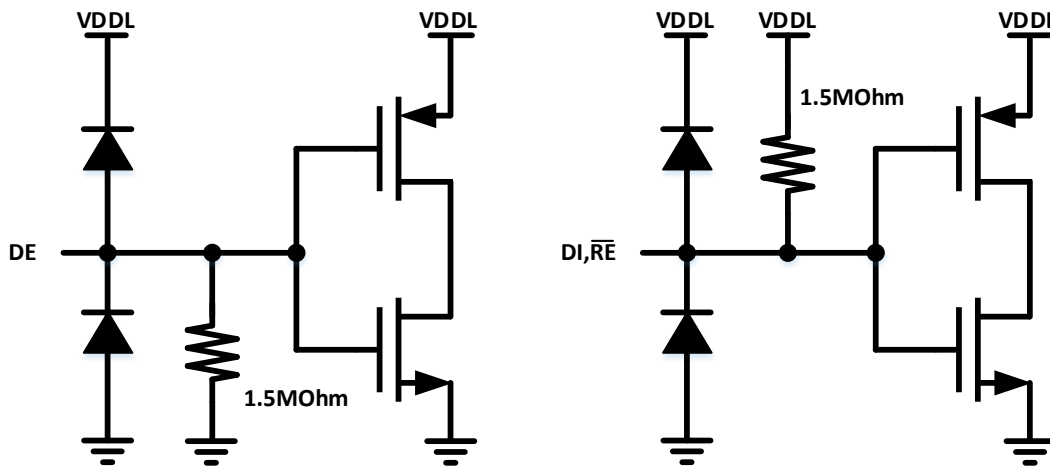

Figure 9-1. Input equivalent circuit
The CA-IS2092A device includes three logic inputs on the logic side: receiver enable, driver enable and driver digital input. The driver enable control DE pin has an internal weak pull-down to GND1, while the digital input DI and receiver enable pins have an internal pull-up to VDDL, see Figure 9-1 the input equivalent circuit.
The transmitter converts a single-ended input signal (DI) from the local controller to differential outputs on the bus lines A and B. The truth table for the transmitter is provided in Table 9-2, the driver enable control DE pin has an internal weak pull-down to GND1, see Figure 9-1 the input equivalent circuit; while the digital input DI pin has an internal pull-up to V_{DDL} . The driver outputs and receiver inputs on the bus side are protected from $\pm 8\text{kV}$ electrostatic discharge (ESD) to GND2, as specified by the Human Body Model (HBM). The driver outputs also feature short-circuit protection and thermal shutdown.